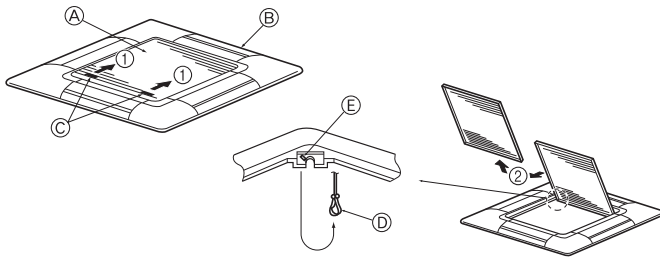

Fig. 7-3
7.2.1. Removing the intake grille (Fig. 7-3)
- Slide the levers in the direction indicated by the arrow ① to open the intake grille.
- With the intake grille in the "open" position, remove the hinge of the intake grille from the grille as indicated by the arrow ②.